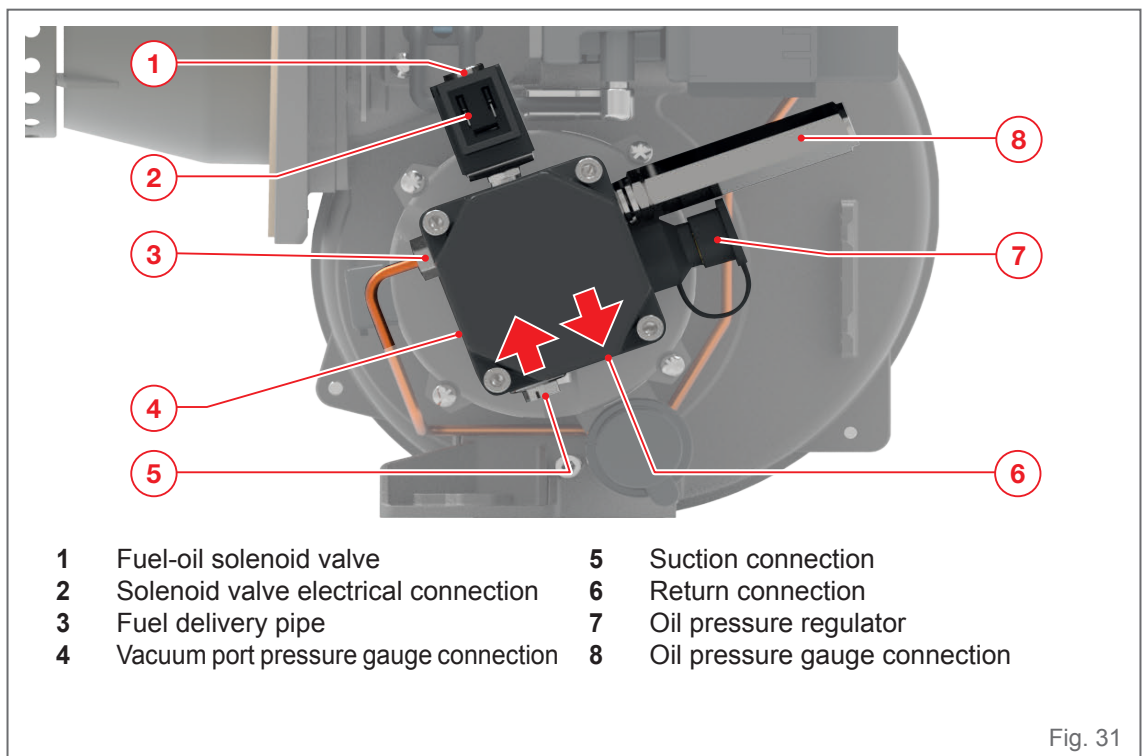

Fig. 31
The oil pressure, and therefore burner output, is adjusted using oil pressure regulator (7), see "Fig. 31", on the pump.